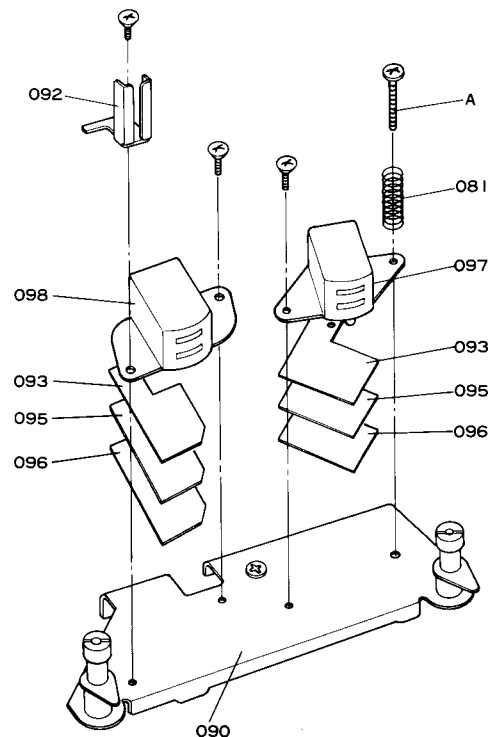

Fig. 3A
1. ADJUSTMENT OF HEADS HEIGHT (Refer to Fig. 3A, B)
2. AZIMUTH ADJUSTMENT OF HEAD (Refer to Fig. 3A,B)